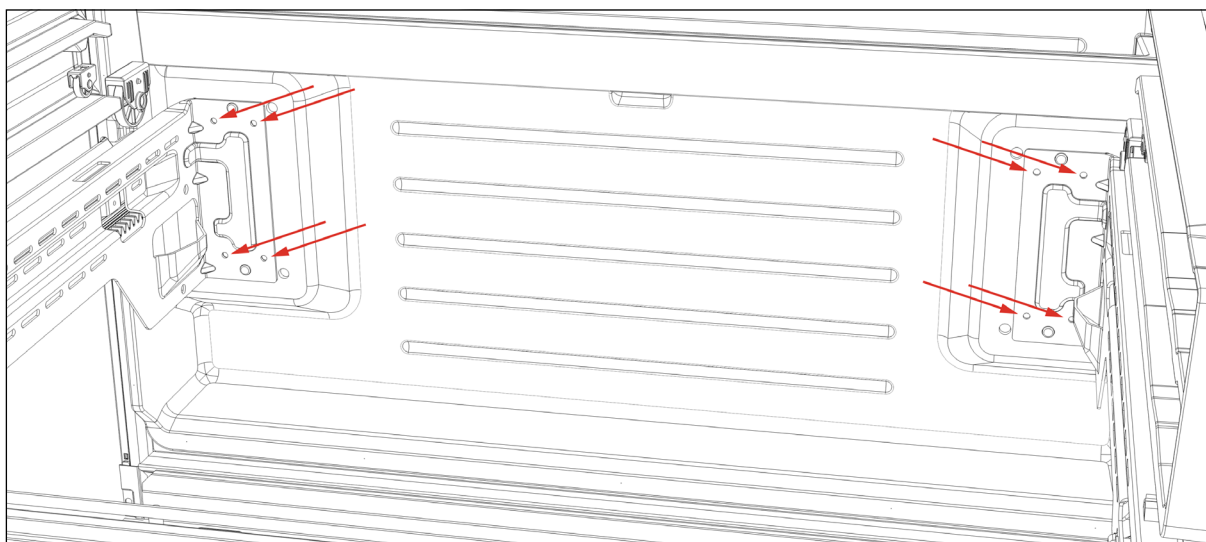

Figure 1
2. The door is secured to 2 brackets affixed to the guiding rails, each with 4 screws (see *Figure 1*). Remove the 8 screws with a Phillips screwdriver or drill bit, using care as the door may drop to the ground once all screws are removed.